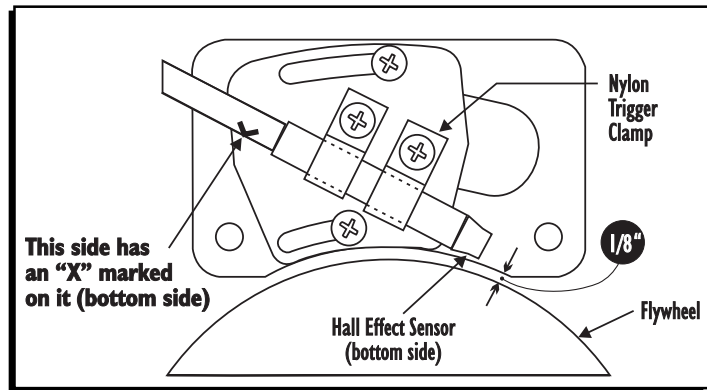

Figure 4 Installing the Trigger Pickup, Old Style Engine.
2. Verify that the "X" mark on the pickup is facing the flywheel (Fig. 4) and the trigger pickup is within 3/8" from the stock flywheel or 1/8" from the MSD billet flywheel.